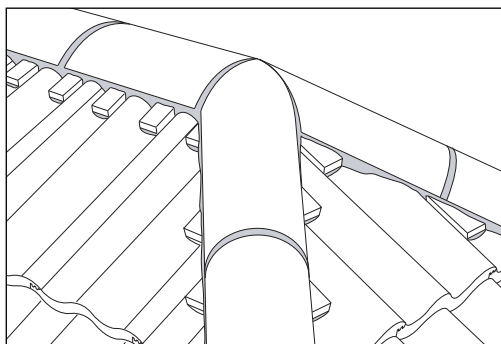

Fig 17 – At ridge hip junction, cut tiles with three-way mitre to ensure continuous line
- 1 Mitre junction of hip and roof apex using a standard three-way mitre and solid bed (Fig 17).